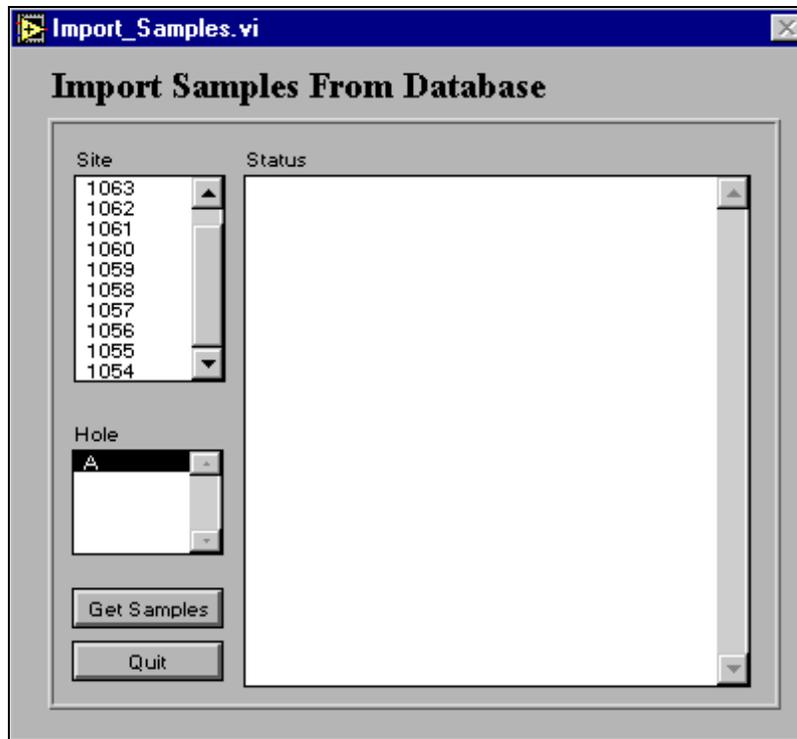

Figure 11. The "Import_Samples" window.
| Figure 11. The “Import_Samples” window. | 7 |
3. Click **OK** and the “Import_Samples” window will become active (see Figure 11).